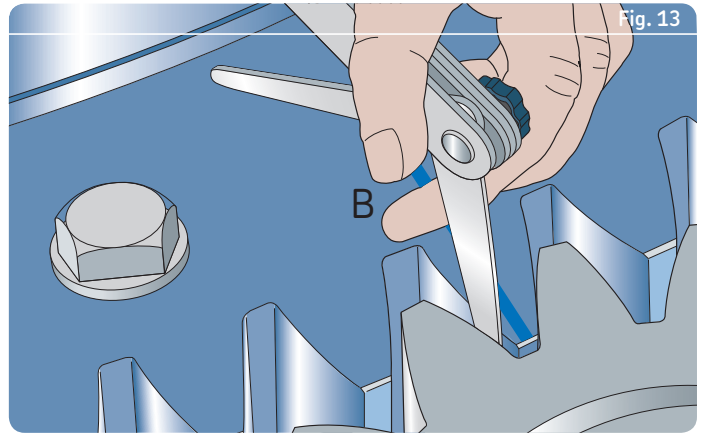

Fig. 13
- 16 For geared slewing bearings, check the backlash, using a feeler gauge, after positioning the pinion (**fig. 13**). The measurement has to be made at the **blue mark** on the bearing gear, which indicates the point where the backlash is smallest. Required values for backlash are listed in **table 1** on **page 29**. If these values are not attained, correct the backlash by adjusting the distance between the centres of the gear wheels.